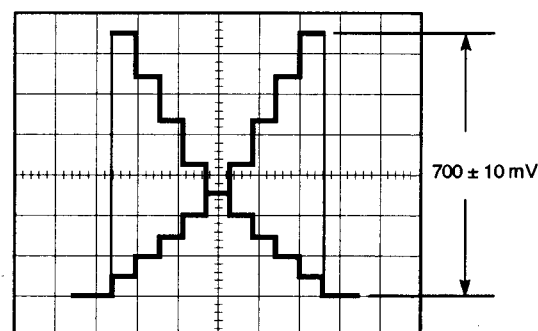

Fig. 5-1-44
- Confirm that the Video signal level becomes  $700 \pm 10$  mV as shown in Fig. 5-1-44.
- Adjust VR205 so that the Video signal level becomes  $700 \pm 10$  mV as shown in Fig. 5-1-44.
- Confirm that the Video signal becomes  $700 \pm 10$  mV as shown in Fig. 5-1-44.
- Set the Lens Iris so that the Video signal level becomes  $700 \pm 10$  mV as shown in Fig. 5-1-44.